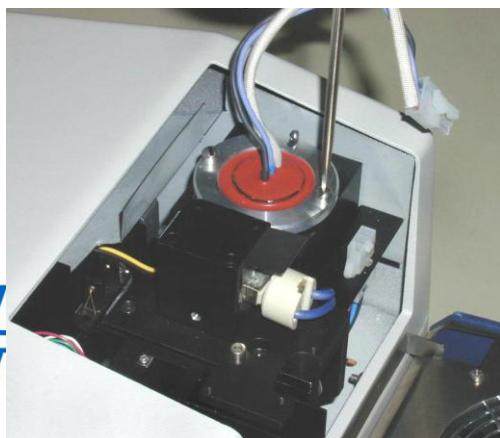

Figure 3-4.
5. Remove the two flathead screws that secure the deuterium lamp (Figure 3-4).
7. Taking care not to touch the glass bulb with bare hands, align the notch in the base of the lamp with the guide on the lamp block (Figure 3-4) and install the new deuterium lamp.
8. Tighten the two flathead screws to secure the new deuterium lamp to the lamp block (Figure 3-4).